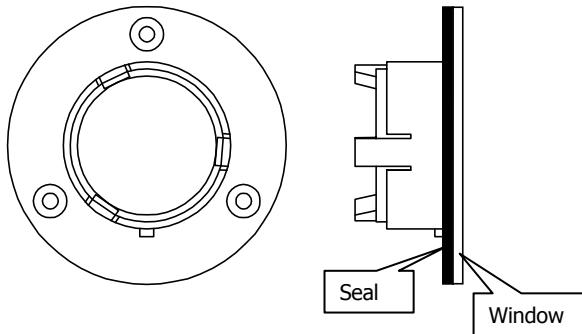

Figure 2 Seal Fitted to Window
5. Ensure the seal is fitted to the window and is correctly seated (Figure 2).